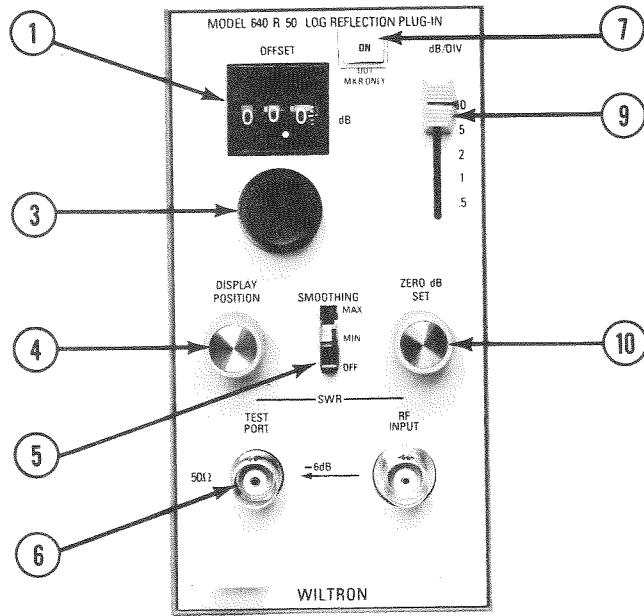

Figure 2-4. Log Reflection Plug-In, Model 640R
#### 2-2.5 Log Reflection Plug-In, Model 640R (See Fig. 2-4)
The controls and indicators and their functions are identical to those listed for Models 640T and 640E with the following exceptions: the maximum sensitivity (dB/DIV) is 0.5 dB, controls (2) and (8) have been omitted, and an output port (see Figure 2-4) has been added.
(6) SWR - The TEST PORT connector connects to the device under test. The RF INPUT is connected to the RF Output from the Model 640G Sweep Generator. A semi-rigid cable is supplied for this latter connection. For purposes of identification, the 50-ohm cable and the 75-ohm cable are both clearly labeled. There is a 6 dB difference in the signal level between the RF INPUT and the TEST PORT because of the loss across an internal SWR autotester (SWR bridge).